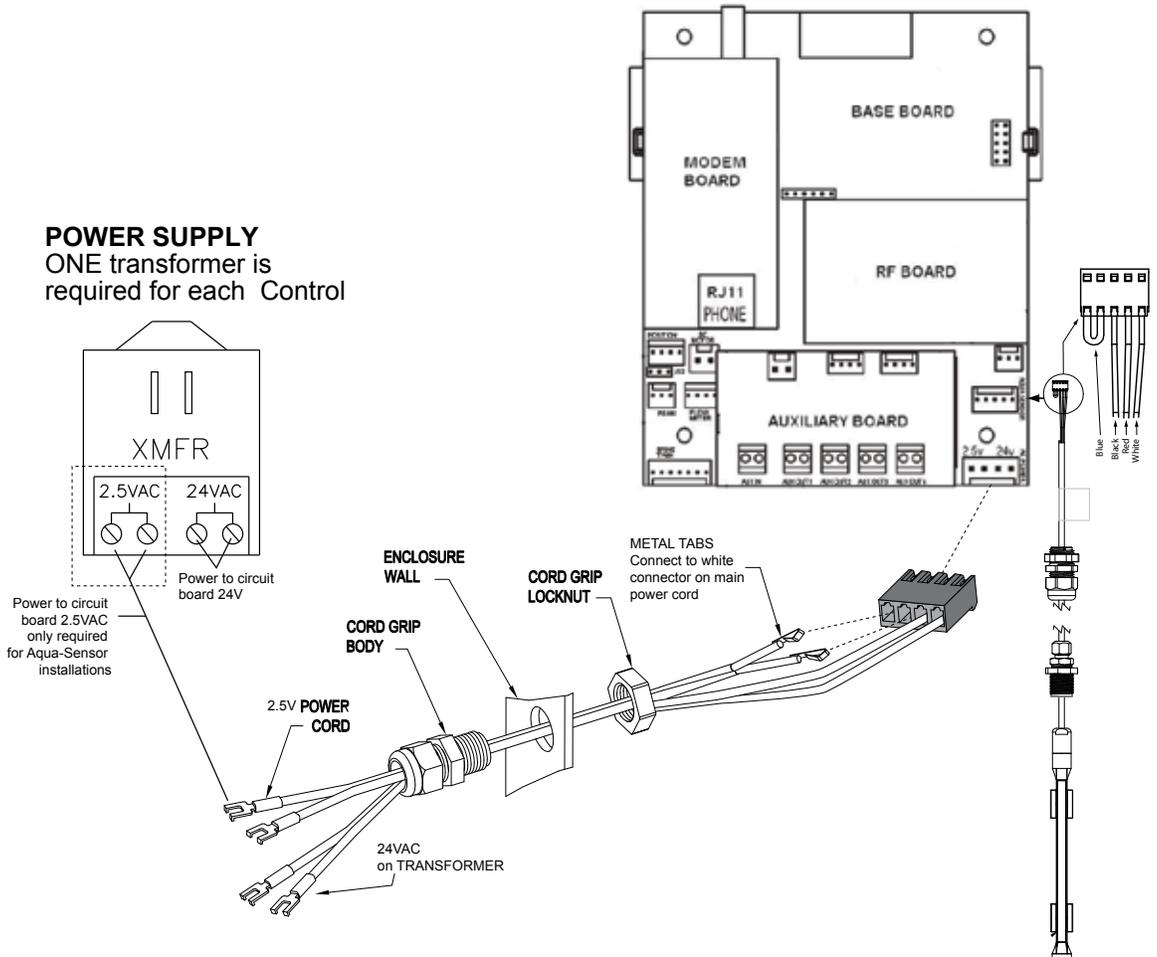

Figure 18. 2.5 VAC Aqua-Sensor® power connection (CSM and Hi-Flo 50).
5. Press the two metal tabs on the end of the power cord into the open slots on the connector. They will connect to the pins labeled 2.5 V on the Base Board. The other end of the power cord with the spade terminals should be connected to the two 2.5 VAC terminals on the transformer (see Figure 18).